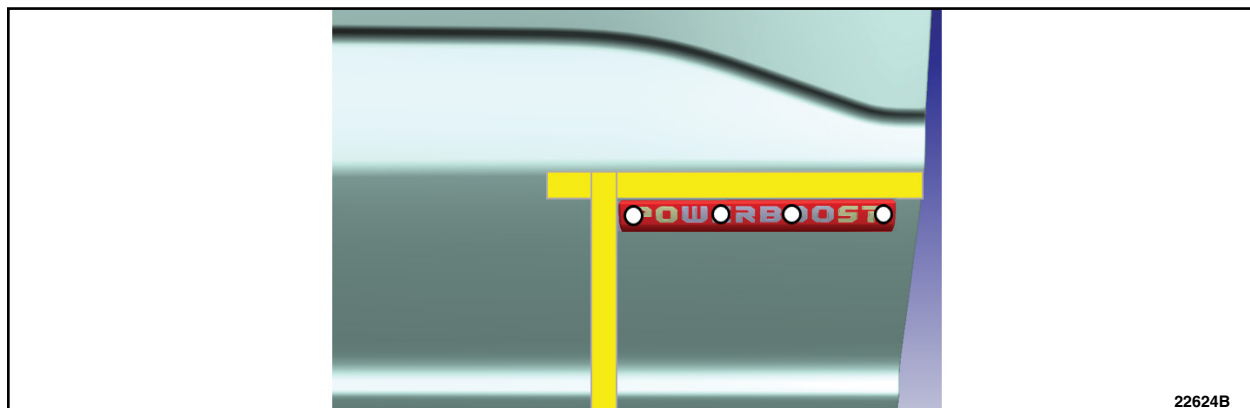

FIGURE 5
21. Remove the tape liner from the back of the badge and install to the door using the locating tape to properly align the badge. See Figure 5.
22. Using medium hand pressure, press for 3 seconds at a minimum of 4 separate locations along the length of the badge until the tape is fully adhered. See Figure 5.